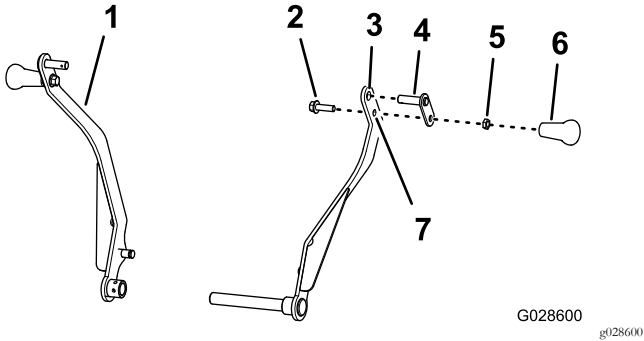

Figure 15
1. Assemble the pivot pin through the upper hole in the cradle arm (Figure 15).
3. Assemble the bolt (3/8 x 1-1/4 inch) through the lower hole in the cradle arm and the retainer of the pivot pin (Figure 15) with the jam nut (3/8 inch), and tighten the jam nut to 15 to 17 N·m (11 to 13 ft·lb).
4. Thread the handle onto the bolt (3/8 x 1-1/4 inch) and tighten the handle against the jam nut and tighten the handle by hand (Figure 15).
5. Repeat steps 1 through 4 to the other cradle arm (Figure 15).